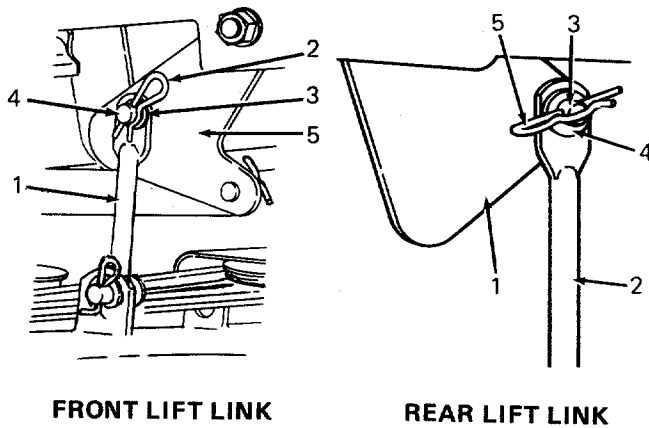

Figure 32
- Begin by placing the lift handle in position number 1. Refer to Figure 32 and remove the hairpin cotter and flat washer which secure the front lift link to the lift carriage lift pin. Remove the front lift link from the lift carriage lift pin.
- Place the lift handle in position number 1. Working on side of the deck corresponding to the blade being adjusted, refer to Figure 32 and remove the hairpin cotter and flat washer securing the rear lift link to the lift carriage lift pin. Remove lift link from the lift pin.